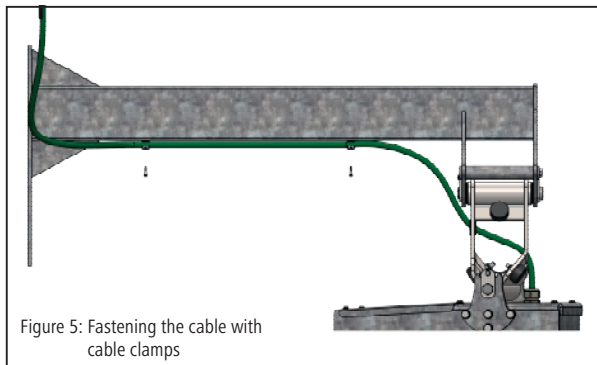

Figure 5: Fastening the cable with cable clamps
8. Secure the M14 fastening screw against loosening with the locking plate (Fig. 4 - item 11), screw (Fig. 4 - item 11), washer (Fig. 4 - item 12) and self-locking nut (Fig. 4 - item 13). Secure the motor cable to the suspension arm with clamps and self-tapping screws (Fig. 5).